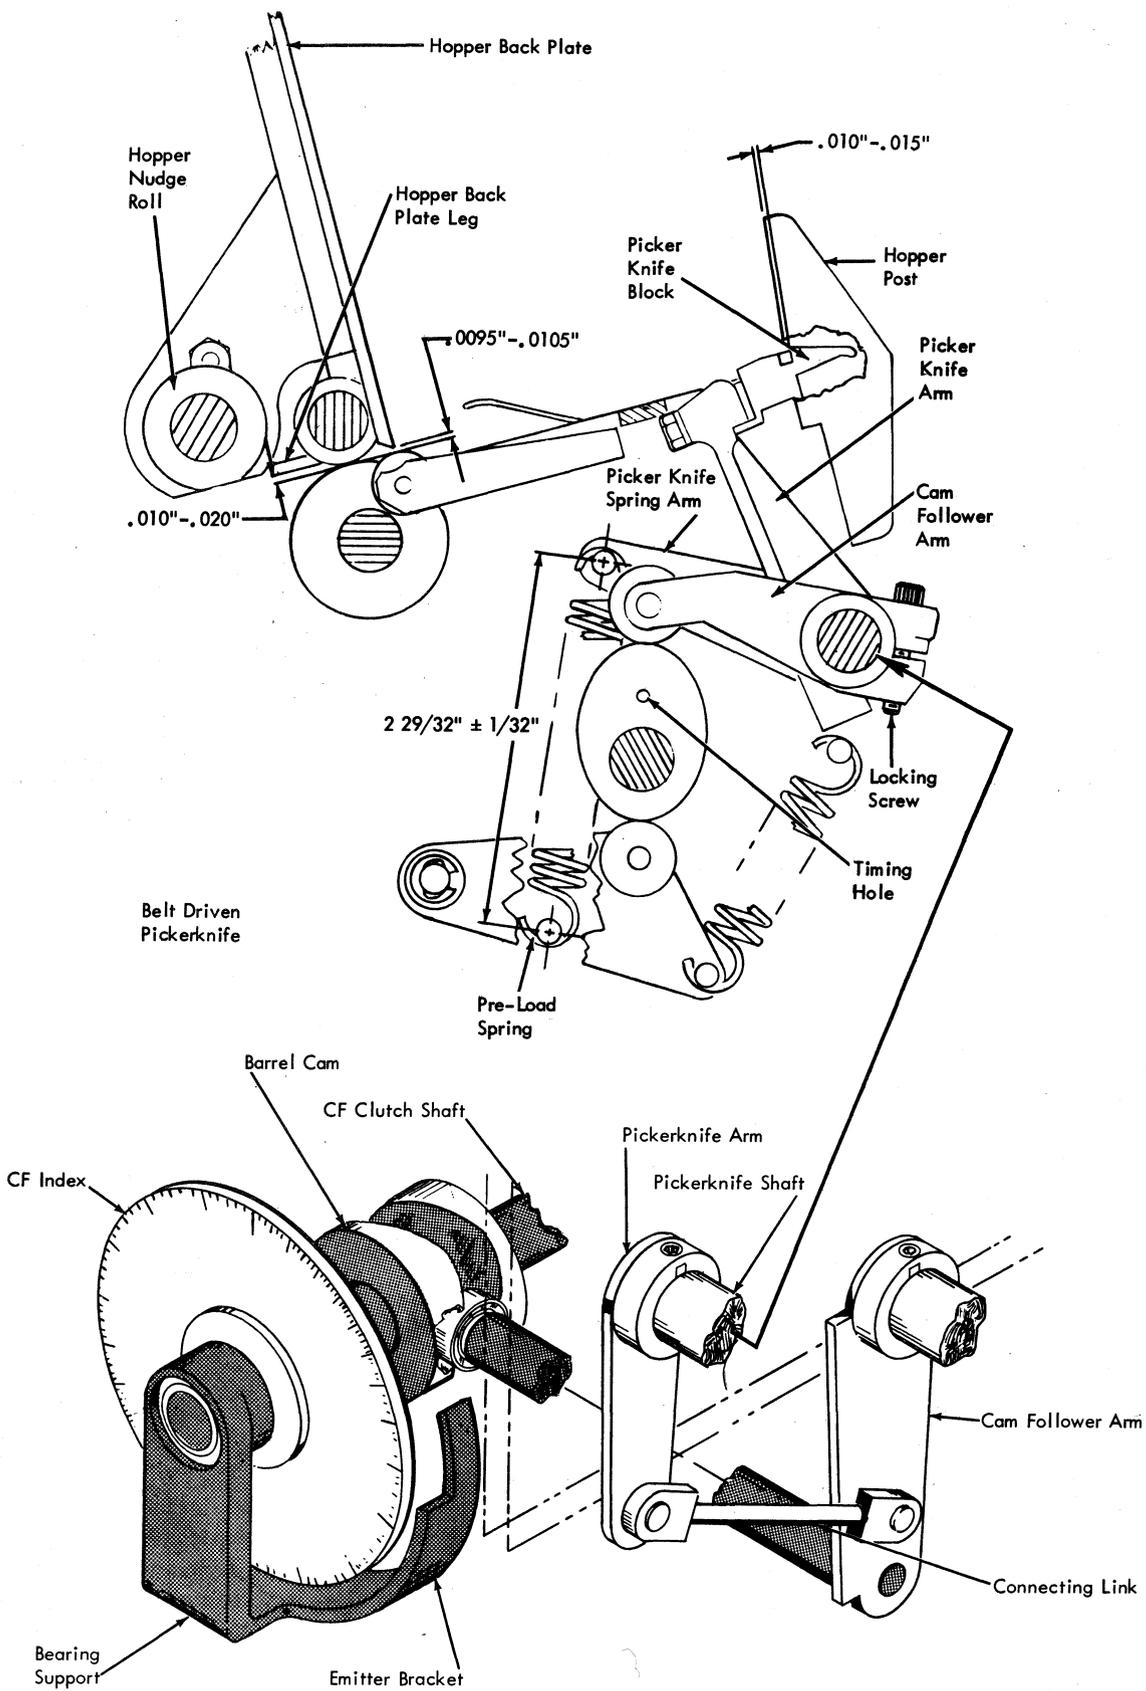

Figure 4-7. Pickerknife and Throat Adjustments
3. Step 3 is for machines with barrel cam pickerknife drive. Remove connecting link (Figure 4-7), loosen follower arm setscrew and slide cam follower free of cam.
2. Remove connecting link (Figure 4-7).
1. Position throat roller so the high point is located under the tip of the throat knife. See Figure 4-7. This can be checked by: (1) loosening the throat knife, (2) lowering it on a $.010''$ gage, and (3) positioning the throat roller so the gage is parallel to the card path.
- b. $.010''$ to $.020''$ clearance between top of feed rolls and bottom of hopper back plate leg. See Figure 4-7.
1. Place feed knife cam follower on high dwell (Figure 4-7). Insert timing pin.
3. Adjust position of pickerknife operating arms so each feed knife is $.010''$ to $.015''$ behind the inner face of the rear guide posts, and in line with each other (Figure 4-7). Remove timing pin. Each pickerknife block is fixed on its arm. Two Carboloy* pieces, ground to specification for proper knife projection, are inserted in the block surface to resist wear. Knife projection is not adjustable; therefore, the pickerknife block must be replaced when the inserts become worn.
- Adjust position of pickerknife operating arms so each feed knife is .010" to .015" behind the inner face of the rear guide posts, and in line with each other (Figure 4-7). Two Carbaloy* pieces, ground to specification for proper knife projection, are inserted in the block surface, to resist wear. Knife projection is not adjustable; therefore, the pickerknife block must be replaced when the inserts become worn.